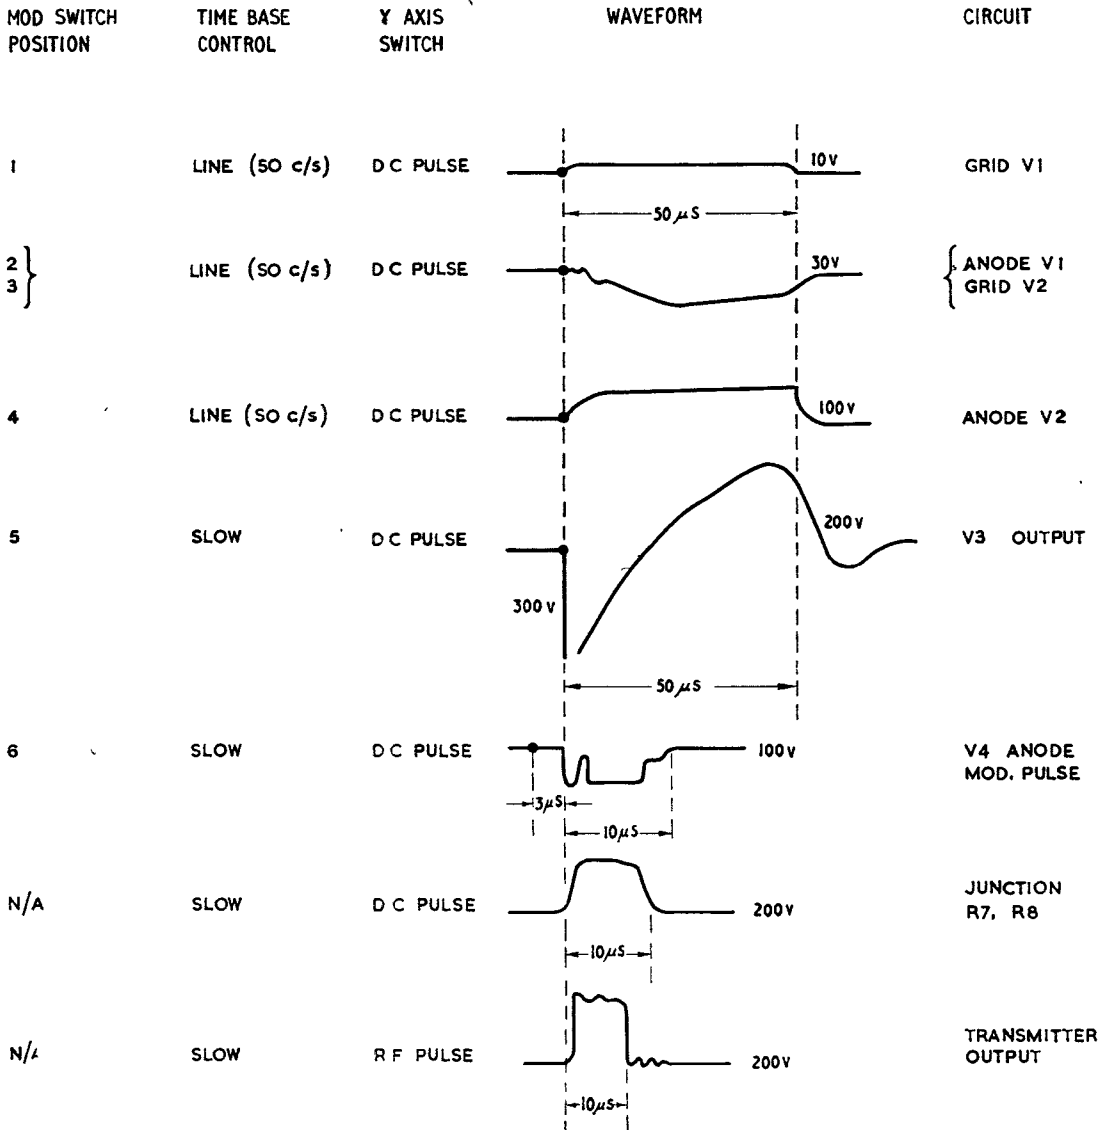

Fig. 6. Waveforms from transmitter Type T.3117
18. Of the eight monitoring points shown in fig. 6 the first six are obtained by connecting the second co-axial cable between